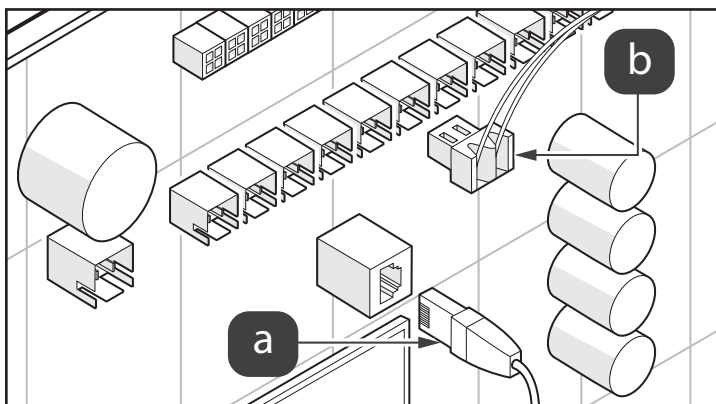

Figure 4. Unplug Auxiliary Relays
8. Disconnect the Ethernet cable, see Figure 4(a).
9. Unplug the auxiliary relays, see Figure 4(b).
1. If connecting a Low Voltage pool heater (for example, a Jandy® brand heater), connect two (2) 14 gauge wires, designed for use in hot environments, to the proper terminals on the 10 pin terminal bar (see Figure 4). If you are connecting a High Voltage pool heater, contact Zodiac for instructions.
2. Bring the two (2) heater wires from the PCB over to the heater and wire nut in series with heater circuitry as if you were wiring a fireman's switch or a heater delay.